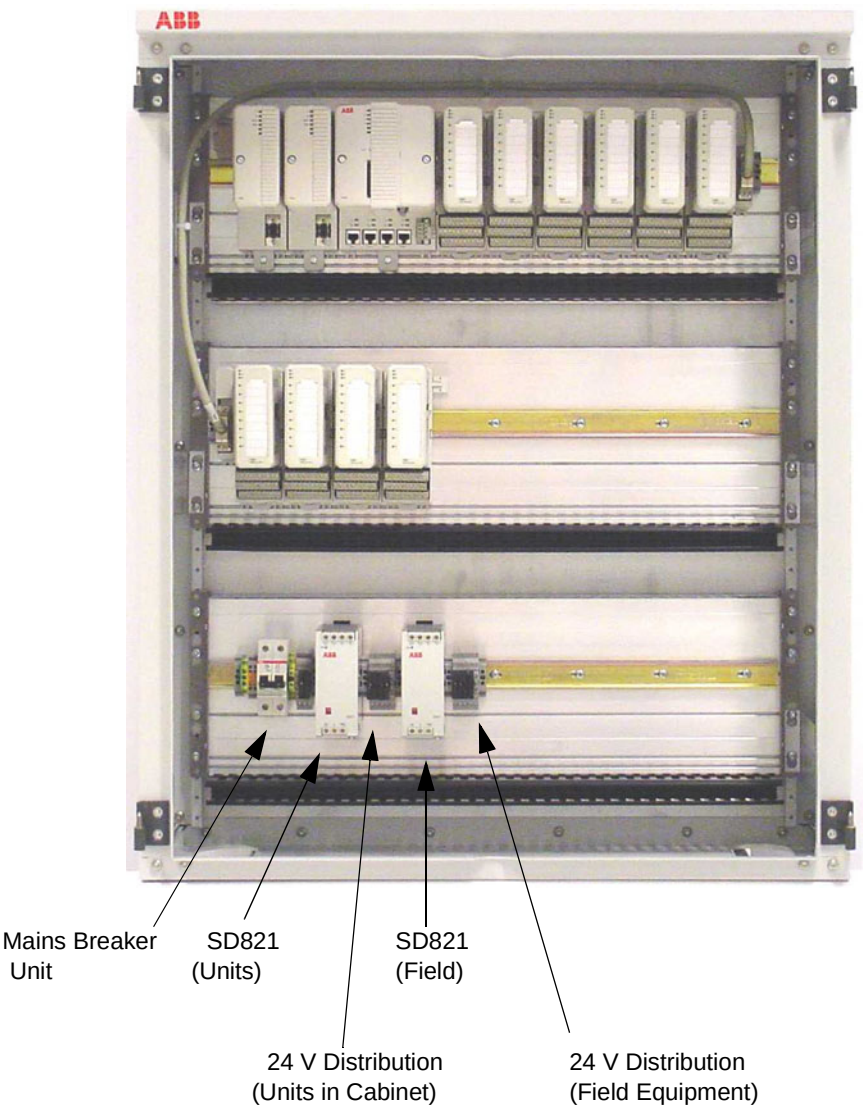

Figure 24. Wall Cabinet – Dual Power Supply (Local/Field) Arrangement
- Figure 24 on page 88: Wall Cabinet – Dual Power Supply (Local/Field) Arrangement